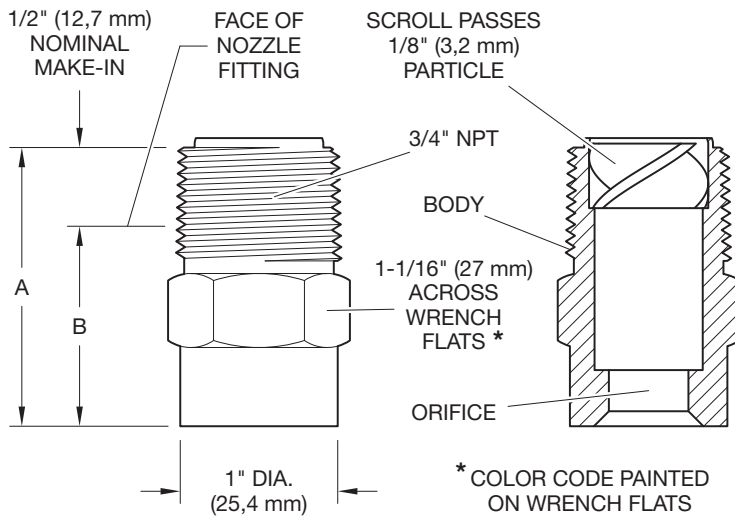
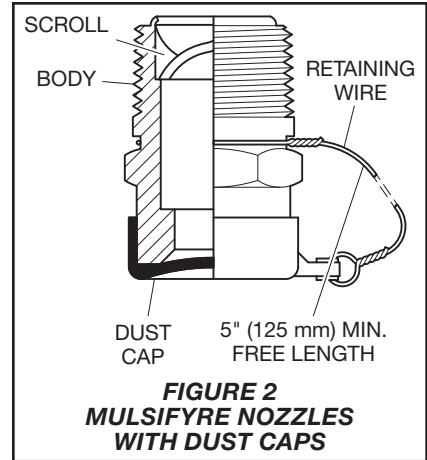

FIGURE 1
FIGURE 2
The Mulsifyre Nozzles are open (nonautomatic) nozzles and they are designed for use in water spray fixed systems for fire protection applications where a high velocity water application may be required. There are two configurations: the basic Mulsifyre Nozzle shown in Figure 1 and the Mulsifyre Nozzle with Model F880 Dust Cap shown in Figure 2. Each configuration is available in six different models that provide a wide range of orifice sizes and water distribution characteristics.
Refer to Figure 1
Step 2. Tighten the nozzle into the nozzle fitting using an adjustable crescent wrench. With reference to Figure 1 apply the adjustable crescent wrench to the nozzle wrench flats.
When replacement Dust Caps are installed, there is to be a minimum of 5 inches (125 mm) of Wire (Ref. Figure 2) between where the Wire is looped around the nozzle thread relief and attached to the Dust Cap. The minimum length of 5 inches (125 mm) will help to assure that there will be an unrestricted flow from the nozzle outlet during operation.